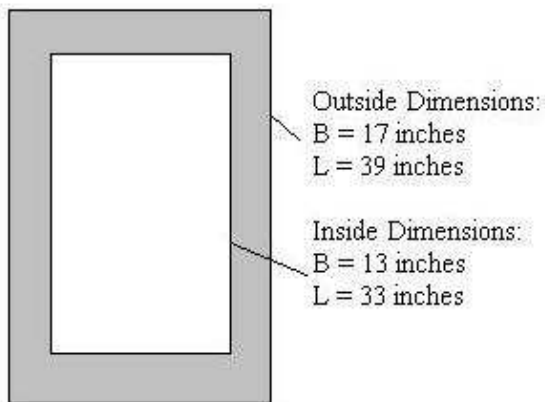

Figure 3: Cross-sectional area.
3. **Part 1: Calculate the compressive force for the cross-sectional area shown in Figure 3. The original length of the member was 100-in long. After applying the compressive force, the member was 99-in long. The modulus of elasticity for the material used in the cross section is 10,000 lb/in². Use the following equations along with those in #2 and #3 to complete the problem. Show your work and calculations.**
Part 2: Calculate the tension force for the cross-sectional area shown in Figure 3. The original length of the member was 100-in long. After applying the tensile force, the member was 103-in long. The modulus of elasticity for the material used in the cross section is the same as in #2 above. Use the following equations along with those in #2 and #3 to complete the problem. Show your work and calculations.